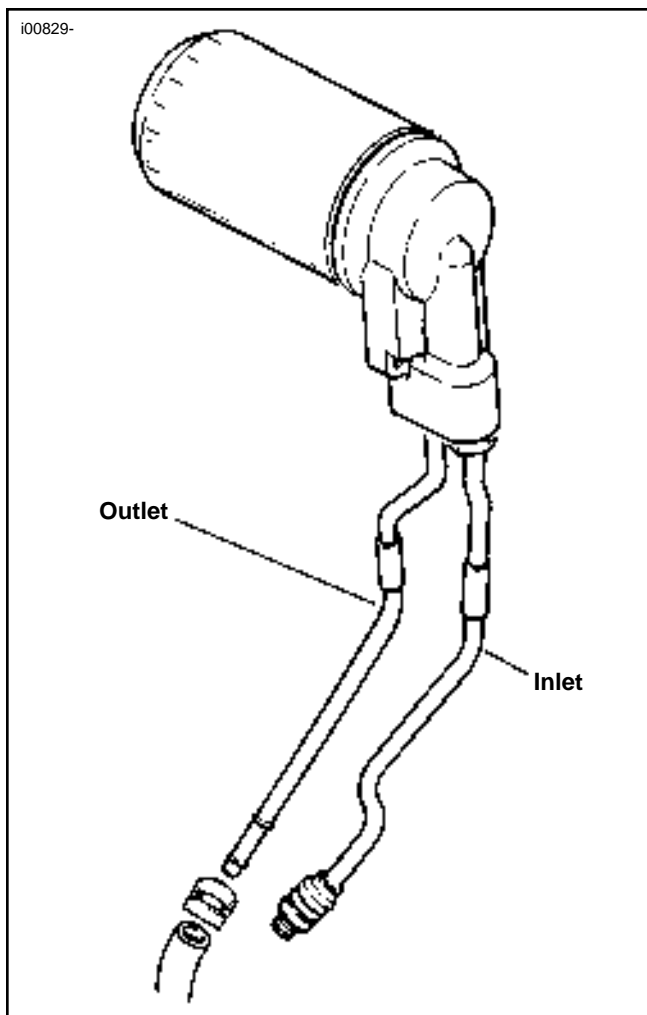

Figure 10. Oil Filter Mount, all 1992 & Later 1340cc models
1. See Figure 10. Locate the point on the oil return line (to oil tank) where the steel/chrome line joins the rubber hose. Remove the clamp. Remove the hose from the steel line. Use a pan to catch the oil which may spill.